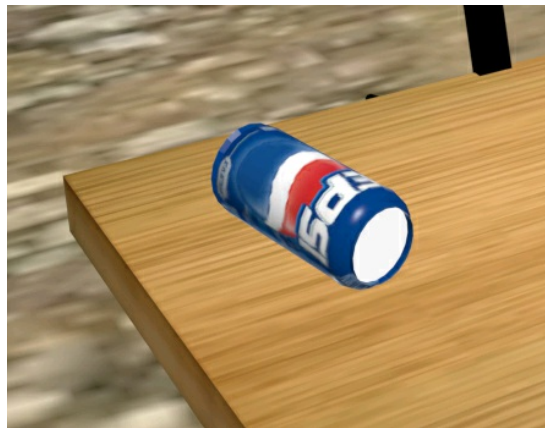

Figure 7-106 *The canmat material displayed*
17. Make sure *can* is selected. Next, choose the **Assign Material to Selection** and **Show Shaded Material in Viewport** buttons from the **Material Editor** dialog box; the *canmat* material is assigned to *can*, refer to Figure 7-106.